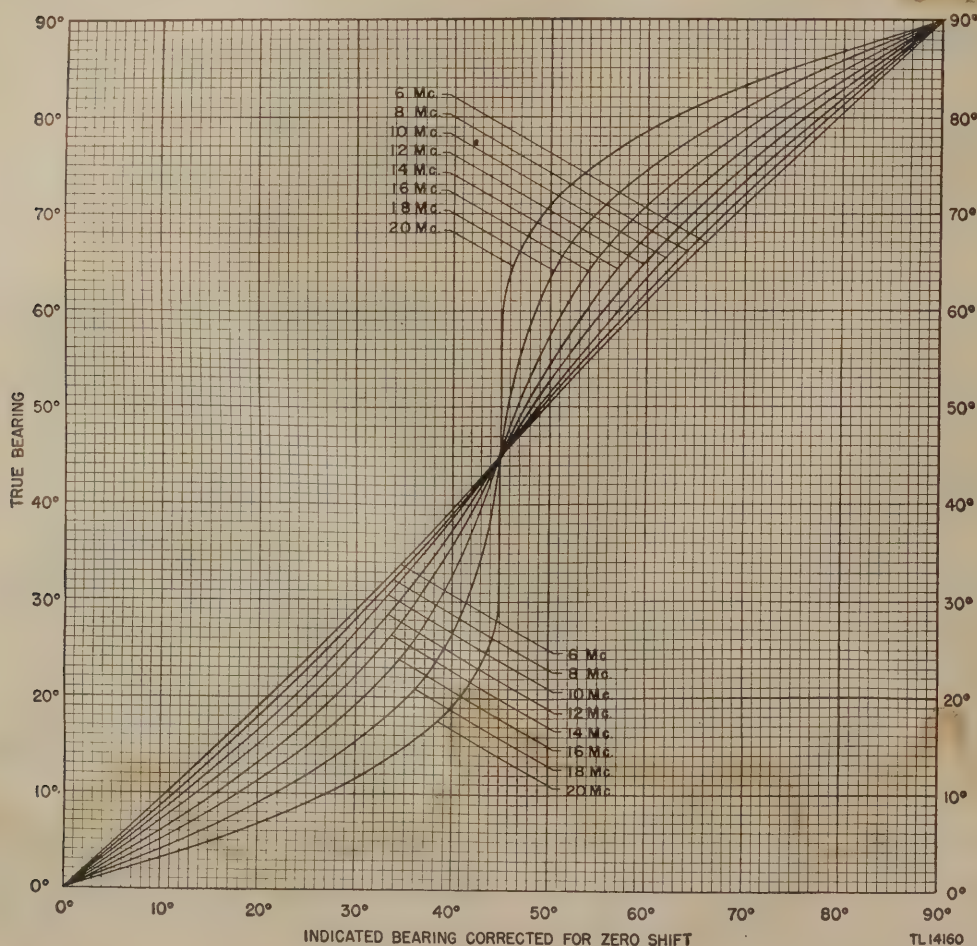

Figure 114. Octantal error curves.
- (b) Refer to the 10- to 20-mc octantal error curves (figs. 114 through 117) and determine the true bearing.
*Example*—Assume that at 14 mc a reading of  $25^\circ$  is obtained on the bearing indicator, that the Sense Indication Chart shows that the bearing indicator sense pattern is correct, and that the Goniometer Zero Shift Correction Chart gives  $-3^\circ$  as the shift correction. Subtract this  $3^\circ$  from the  $25^\circ$  reading to get a corrected reading of  $22^\circ$ . Refer to the octantal error curve (fig. 114) and determine that the true bearing is  $15^\circ$ .
- (2) *Use of slide rule.* Instructions and the materials for preparing an error correction slide rule are given in appendix